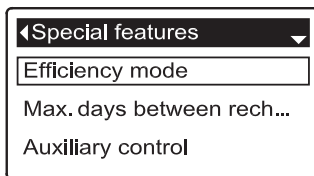

FIG. 74
5. Press the SELECT (O) button to display the Special features menu (See Figure 74).
9. Press the SELECT (O) button. The display will go back to the Special features menu (Figure 74).